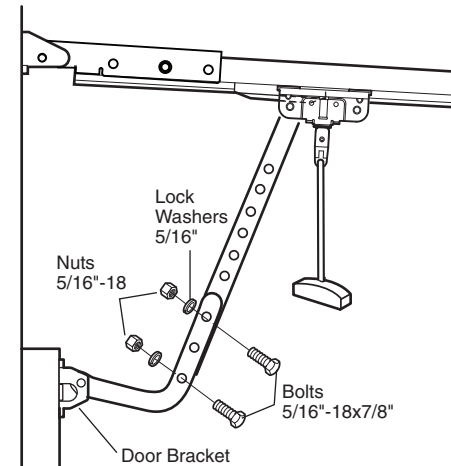

Figure 2
If your installation doesn't require vertical reinforcement but does need top and bottom fastening holes for the door bracket, fasten as shown in Figure 2.
- **Figure 2:**